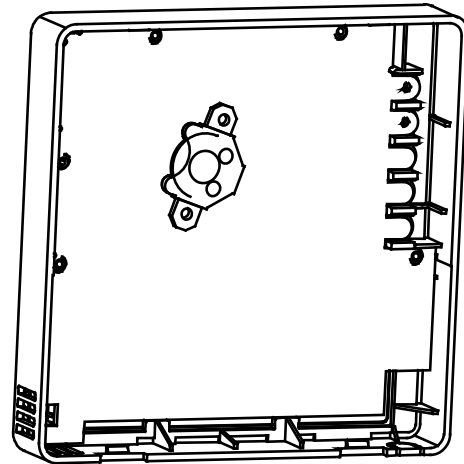

Fig. 21 — Battery Installation
- Put the battery in the installation site. Ensure the positive side of the battery is in accordance with the positive side of installation site (see Fig. 21).